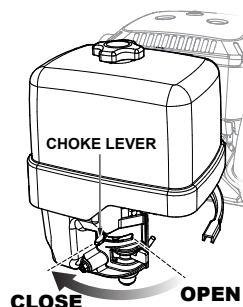

Figure 18. Choke Lever (CLOSED)
2. If starting a cold engine, place the choke lever (Figure 18) in the **CLOSED** position.